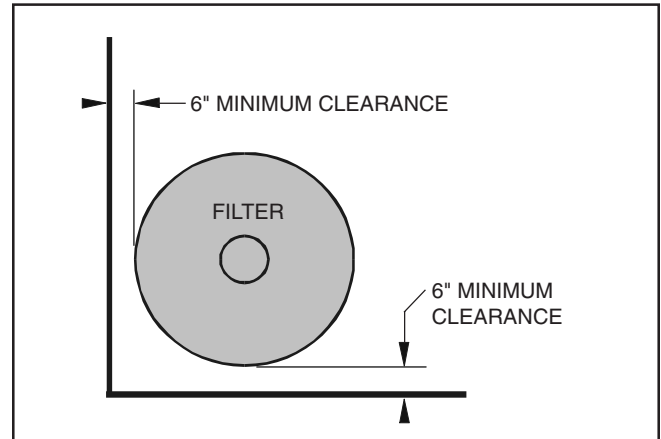

Figure 4. Filter Location
3. Install electrical controls at least five (5) feet from the filter. This will allow enough room to stand away from the filter during start-up.
4. Allow sufficient clearance around the filter to permit a visual inspection of the entire system (see Fig. 4).